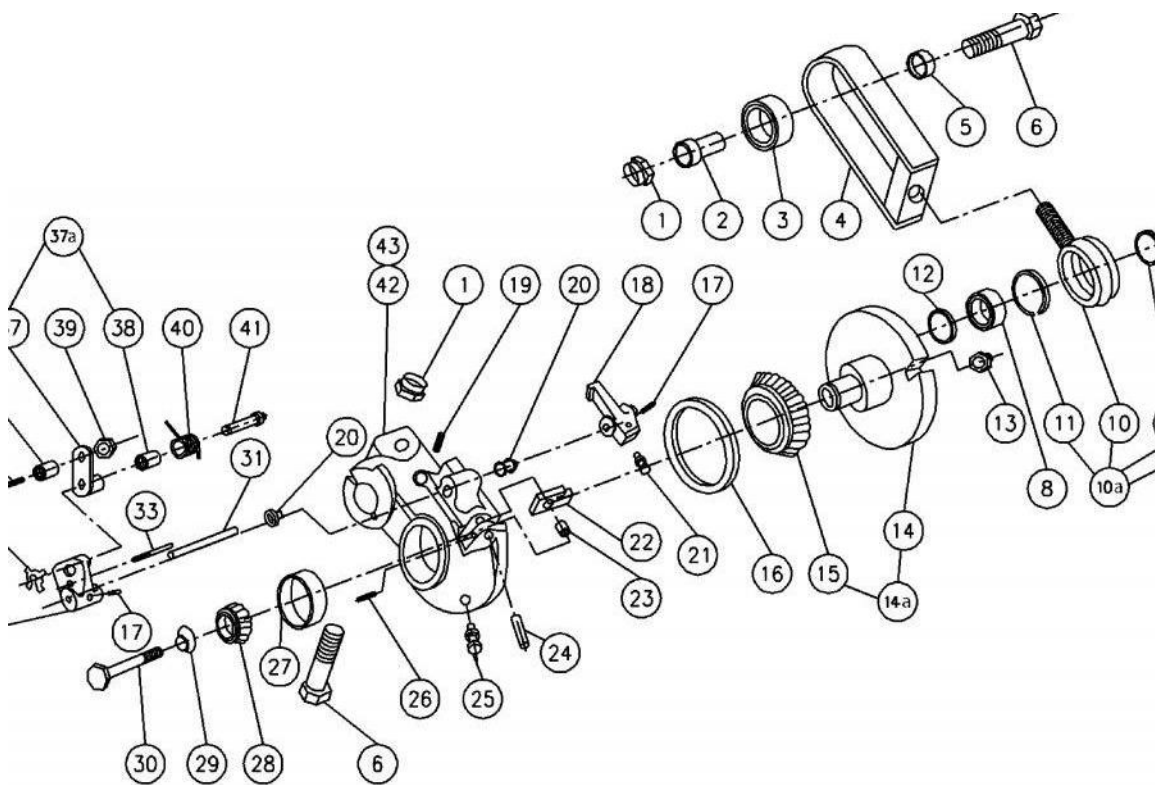

Figure 2
7. Figure 2 is of what component?
8. In Figure #2, item 4 is called the clevis. What is it's function.